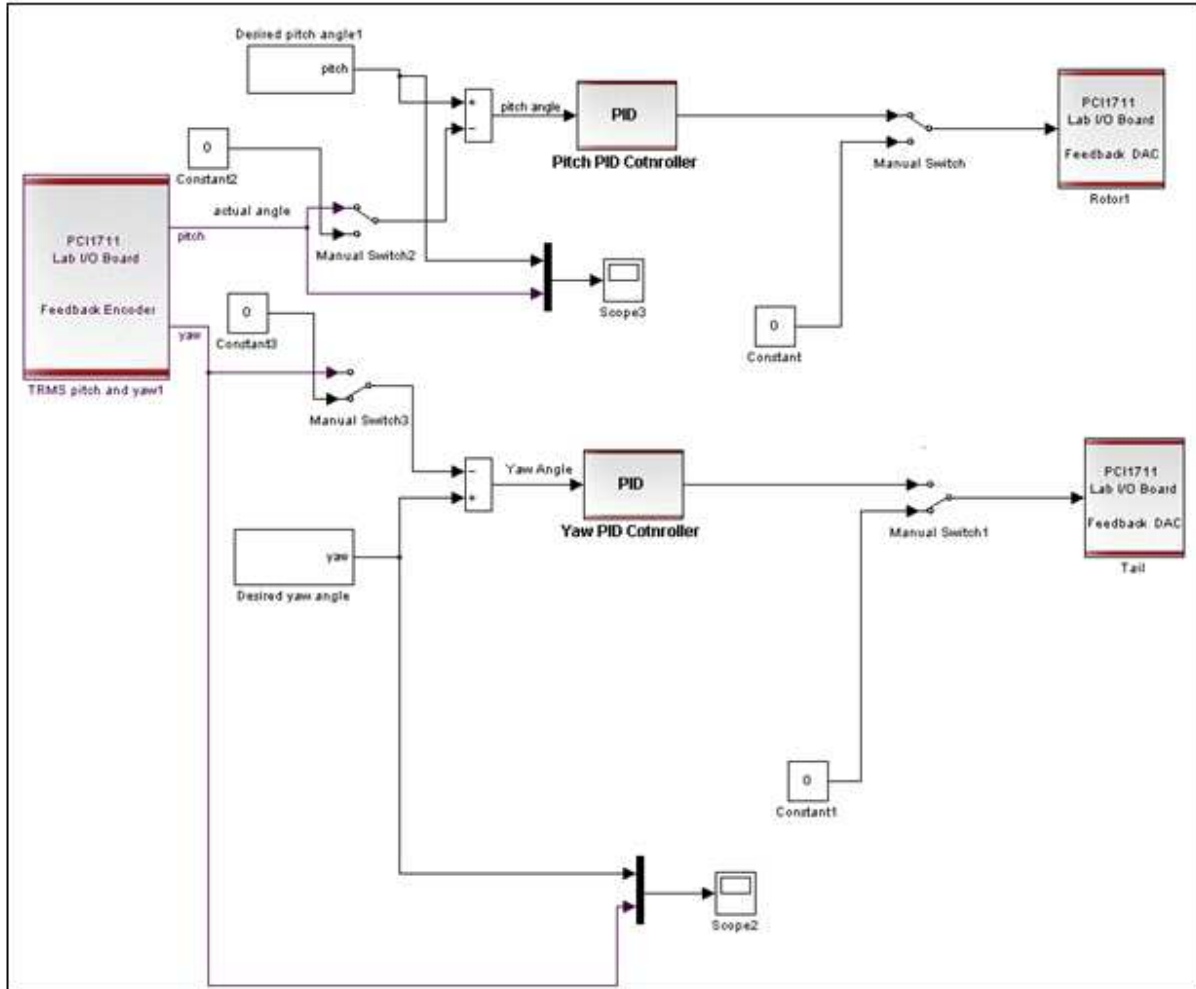

Figure 8 PID tuning simulink model
1. Open the simulink model file 'PID_tuning' on the desktop. It will open the following model shown in figure 8.